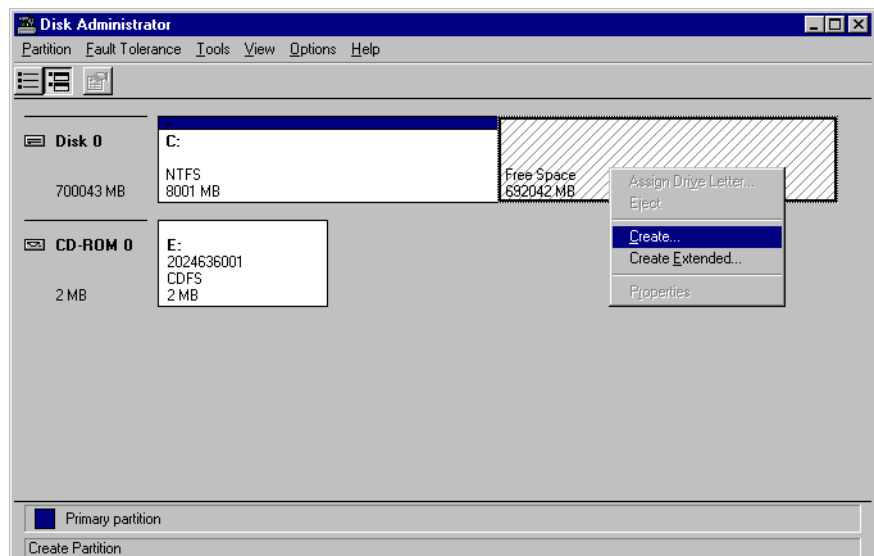

Figure 003
15. Right-click on the *Free Space* space and select *Create* (see Figure 003).